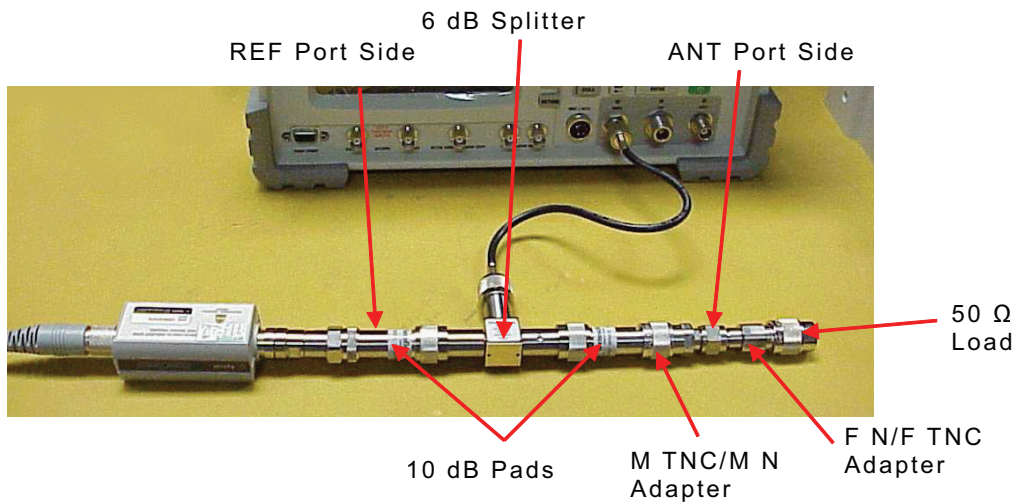

Fig. 4-14 Splitter Calibration Setup (REF Port)
- At prompt, reconfigure equipment. Switch Power Meter Sensor head to 10 dB pad on REF Port Side; switch 50 Ω load to 10 dB pad on ANT Port Side. Refer to Fig. 4-14 as needed.